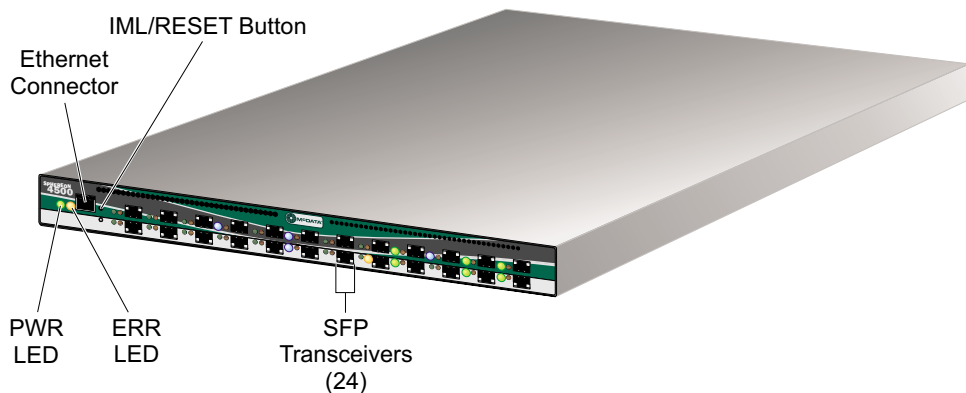

Figure 1-2 Sphereon 4500 Switch (Front View)
The switch provides a modular design that enables quick removal and replacement of FRUs, including small form factor pluggable (SFP) optical transceivers and power supply assemblies with internal cooling fans. Figure 1-2 illustrates the front of the switch. SFP transceivers are the only FRUs accessed from the front. The figure also shows front-panel controls, connectors, and indicators.
When the **IML/RESET** button (Figure 1-2 on page 1-3) is pressed, held for three seconds, and released, the switch performs an IML that reloads the firmware from FLASH memory. This operation is not disruptive to Fibre Channel traffic. If the button is held for more than three seconds, the **ERR** LED blinks at twice the unit beaoning rate.
The front panel provides a 10/100 megabit per second (Mbps) RJ-45 twisted-pair connector (Figure 1-2 on page 1-3) that attaches to an Ethernet LAN to provide communication with the management server or a simple network management protocol (SNMP) management workstation. The connector provides two green LEDs. The left LED illuminates to indicate LAN operation at 10 Mbps, while the right LED illuminates to indicate LAN operation at 100 Mbps.
The **PWR** LED (Figure 1-2 on page 1-3) illuminates when the switch is connected to facility AC power and is operational (the switch does not have a power switch). If the LED extinguishes, a facility power source, power cord, or power distribution failure is indicated.
The **ERR** LED (Figure 1-2 on page 1-3) illuminates when the switch detects an event requiring immediate operator attention, such as a FRU failure. The LED remains illuminated as long as an event is active. The LED extinguishes when *Clear System Error Light* is selected from the SANpilot interface or Element Manager application.
- **Fibre Channel ports** - LEDs to the left of each port (Figure 1-2 on page 1-3) illuminate, extinguish, or blink to indicate port status and port speed. The amber LED illuminates if the port fails. The green/blue LED illuminates green to indicate 1.0625 Gbps port operation. The green/blue LED illuminates blue to indicate 2.125 Gbps port operation.